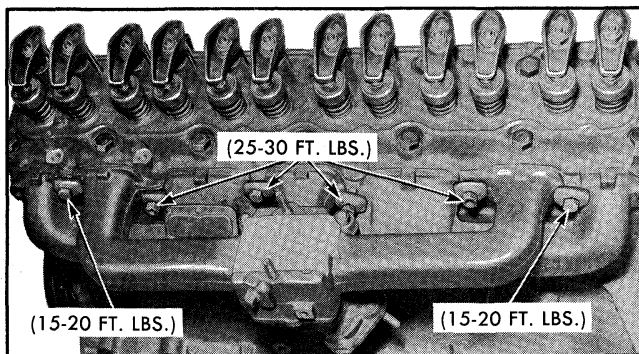

Fig. 6-28 Manifold Attaching Points
11. Clean manifold gasket surfaces and install new gasket over manifold studs. Position manifold and slide it into place over the studs, making sure it seats against the gasket. Install bolts and clamps and tighten as shown in Fig. 6-28.